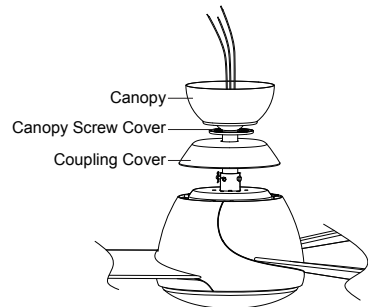

Fig. 8
**Step 5.** Route wires through coupling cover, canopy screw cover and canopy. (Fig. 8)